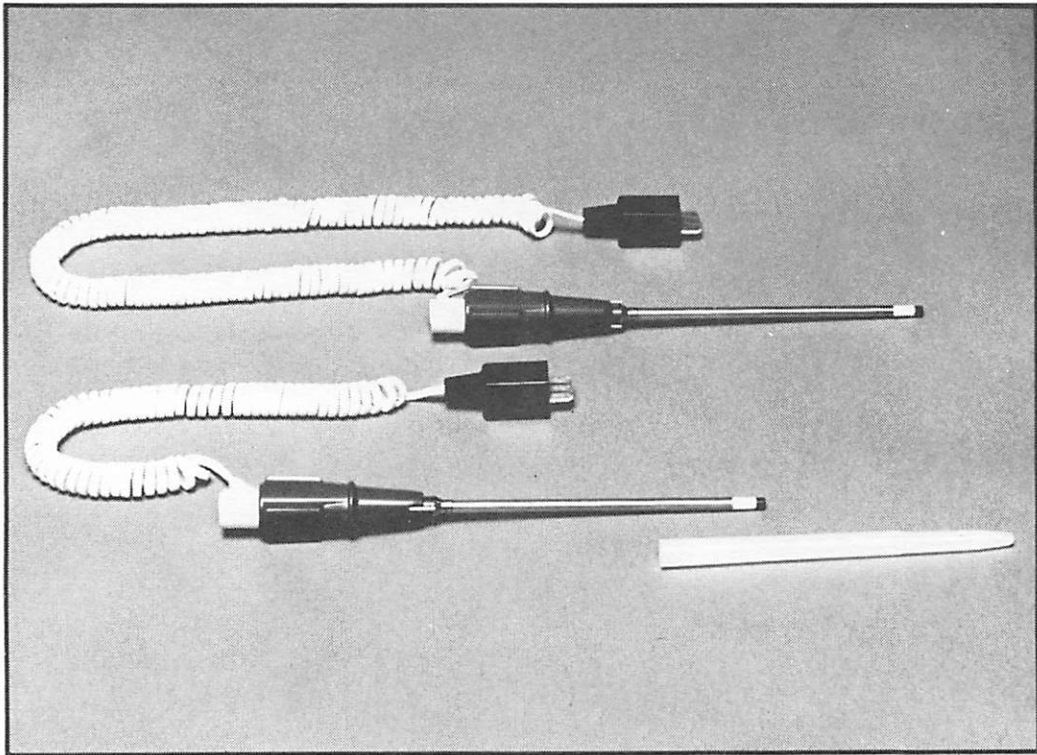

Figure 1-4. IVAC Probes and Probe Covers
- c. IVAC Standard Probes - Models P880L/P882L (long cord) (figure 1-4). The P880L/P882L probe contains a heat-sensing thermistor located inside a stainless steel shaft. The thermistor provides a temperature-proportional resistance to the thermometer through the probe connection and flexible 15-inch coil cord attached to the base of the probe shaft. Also located at the base of the probe is an ejection button for easy disposal of used probe covers. Oral probes are blue, rectal probes are red; the oral and rectal probes are electronically identical. These probes are designed to be used in either the predictive or the monitor mode of operation.
- d. IVAC Standard Probes - Models P880/P882 (oral/rectal) (figure 1-4). These probes are identical to the P880L/P882L probes except that they are equipped with a 6-inch coil cord. These probes are designed to be used in either the predictive or the monitor mode of operation.
- e. IVAC Probe Cover - Model 850 (figure 1-4). The probe cover is a thin plastic sheath with thermal characteristics carefully selected to match the requirements of the VITAL•CHECK monitor. The probe cover is used to cover the shaft of the probe to prevent cross-contamination or infection during temperature measurement.